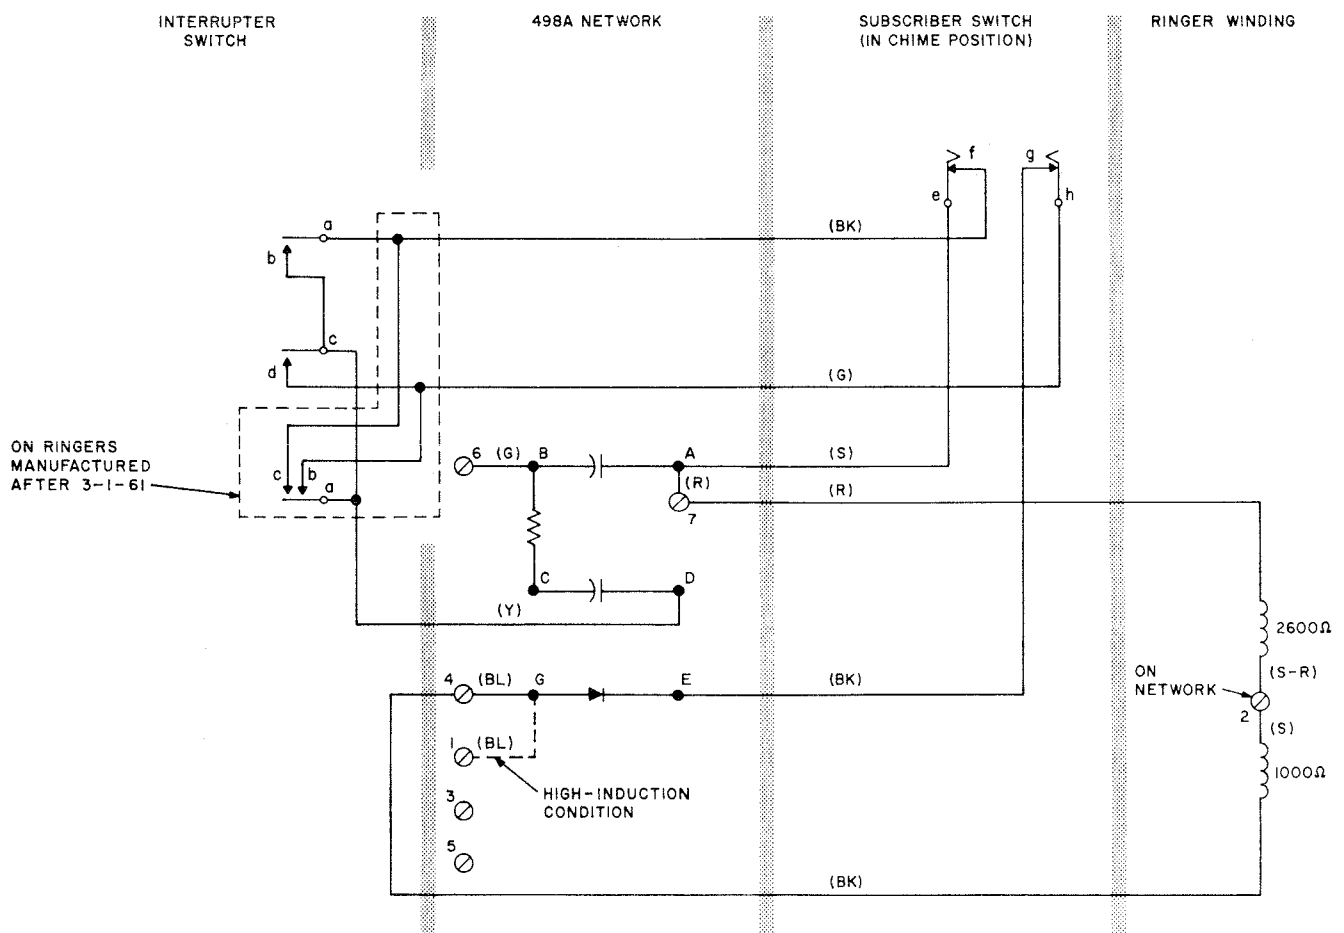

Fig. 4 — F1A Ringer, Schematic
(e) Interrupter switch assembly operated by movement of clapper rod to control chime operation. (Earlier model ringers have a 4-leaf spring assembly; later models have 3-leaf spring assembly as shown in Fig. 4.)
6.03 Table B gives connections for the F1A ringer. A circuit drawing is shown in Fig. 4.